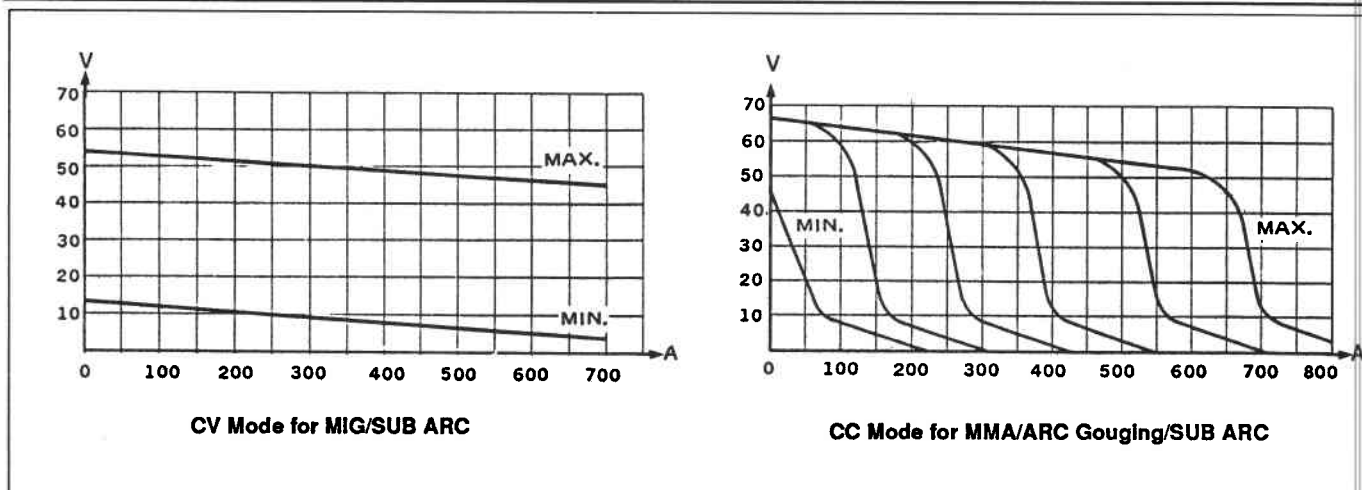

Fig. 1 Transmig 650 Volt Ampere Characteristics
Characteristics	See Fig. 1
2. Process Switch. In the MIG/MAG "up" position the Transmig 650 provides constant voltage characteristics, see Fig. 1, for MIG, MAG or FCW welding applications. In this mode the Output Control adjusts welding/open circuit voltage.
In the MMA/ACA/SAW "down" position the Transmig 650 provides constant current (steeply drooping) characteristics, see Fig. 1, suitable for MMA or SAW welding or Air Carbon Arc gouging. In this mode the Output Control sets the welding current.